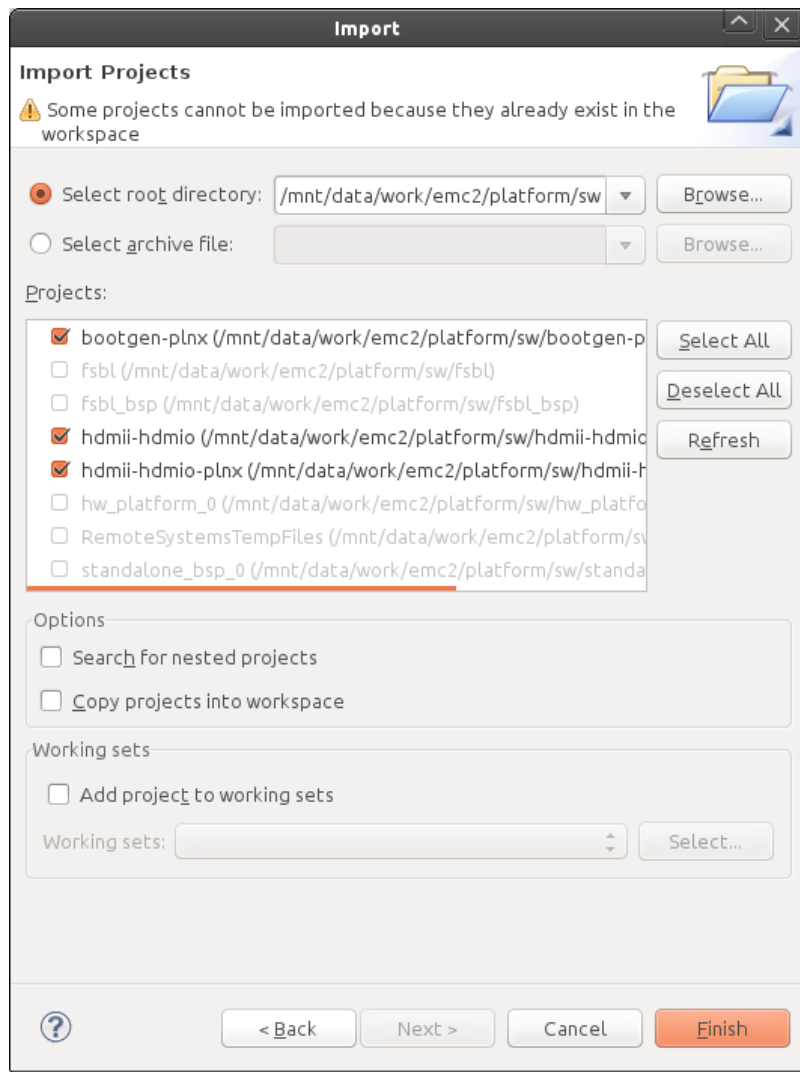

Figure 7: Import SW project into the SDK workspace.
5. Import prepared application projects into the SDK workspace, select menu *File→Import...→General→Existing Projects into Workspace*, browse to folder *sw* and select projects (Figure 7):